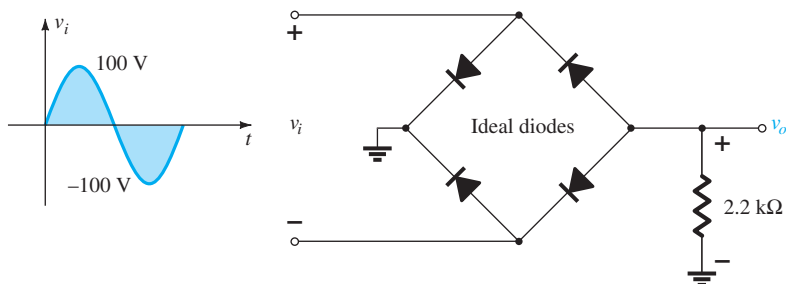

FIG. 2.173
29. Determine v_o and the required PIV rating of each diode for the configuration of Fig. 2.173. In addition, determine the maximum current through each diode.